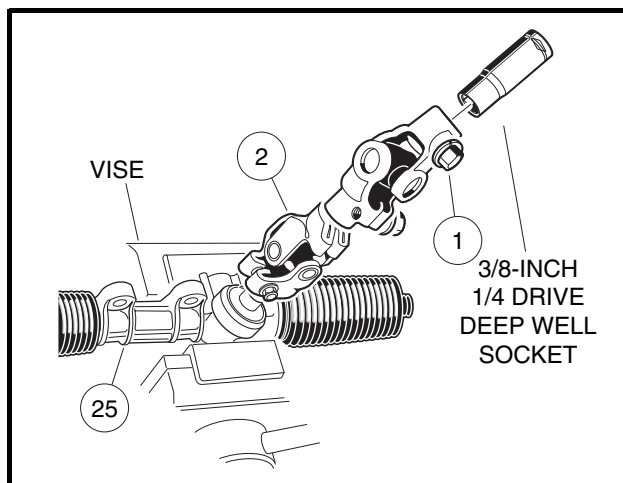

Figure 7-14 Rack and Pinion Resistance
- 11.2. Insert a 3/8-inch deep well socket into the steering column end of the universal joint (2) and tighten the bolt (1) to 15 ft-lb (20.3 N·m) (Figure 7-14, Page 7-12).